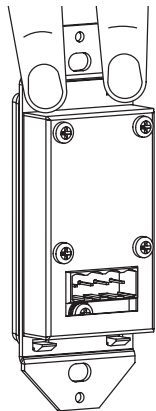

Figure 3 Removing the Decora-style Insert
2. Hold the WS110R as shown in **Figure 3**. Locate the two plastic mounting tabs at the top rear of the Decora-style insert. Using two fingers, simultaneously press both tabs down (towards the center of the insert) and forward (away from you) until the insert pops free from its mounting slots.